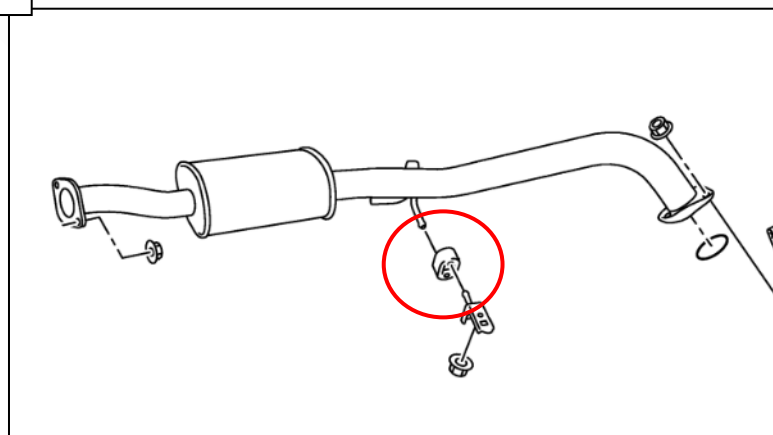

Figure 2
5. Hang the Muffler onto the rear Driver Side Exhaust Hanger. *Figure 2.*